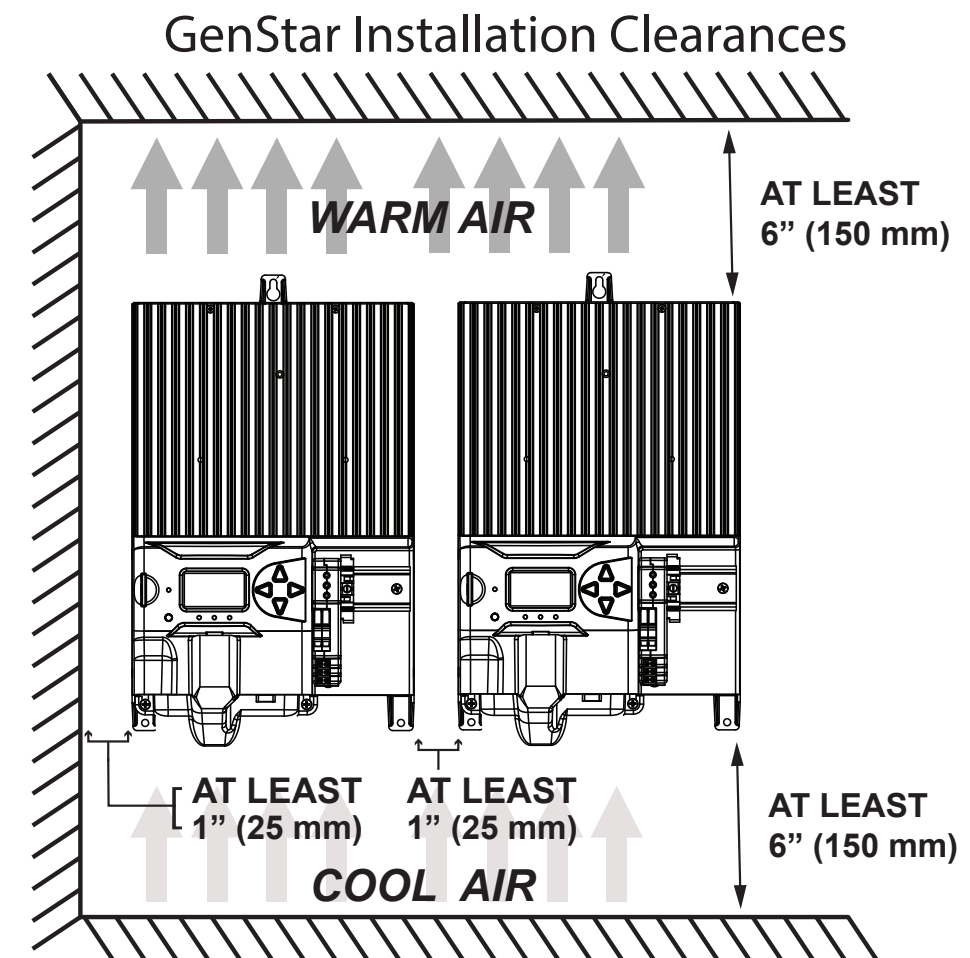

Figure 3-1. Required mounting clearance for proper air flow
### 3.2 Mounting - refer to Figures 3-1 and 3-2
B) Verify that there is at least 6" (150mm) of space above and below the unit, and at least 3" (75 mm) around the heatsink - see Figure 3-1.